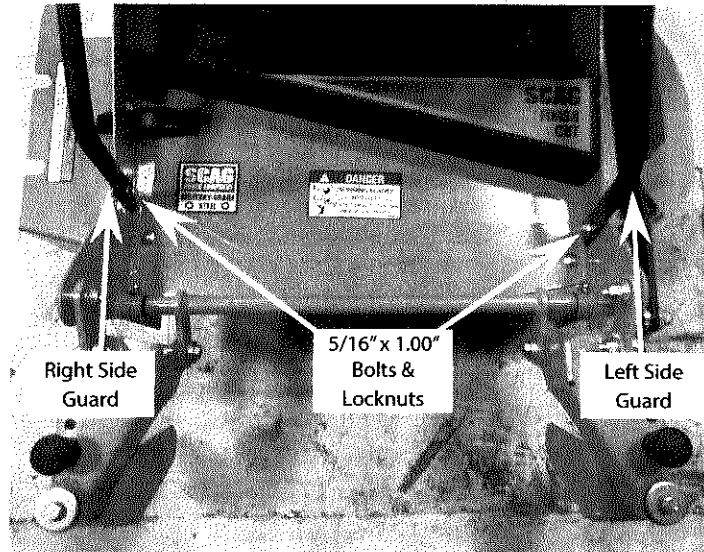

Figure 10
12. Align the holes of the swivel caster support weldment on the left and right side with the mounting holes of the side guard mounting brackets. Install a 5/16" x 1.00" serrated flange bolt through the caster support weldment bracket and then through the side guard mounting brackets on both the left and right side. See Figure 10. Loosely install a 5/16" flange locknut on each bolt mounting the side guard brackets to the swivel caster support weldment.